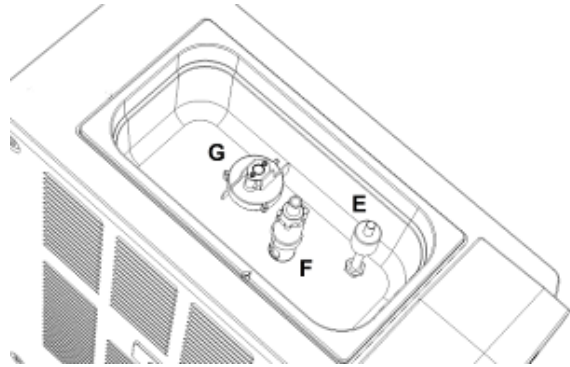

Fig. 55
- Once all the components of the freezing cylinder have been refitted, place all components of the top tank in the same position they occupied before the sanitisation (Fig. 55).